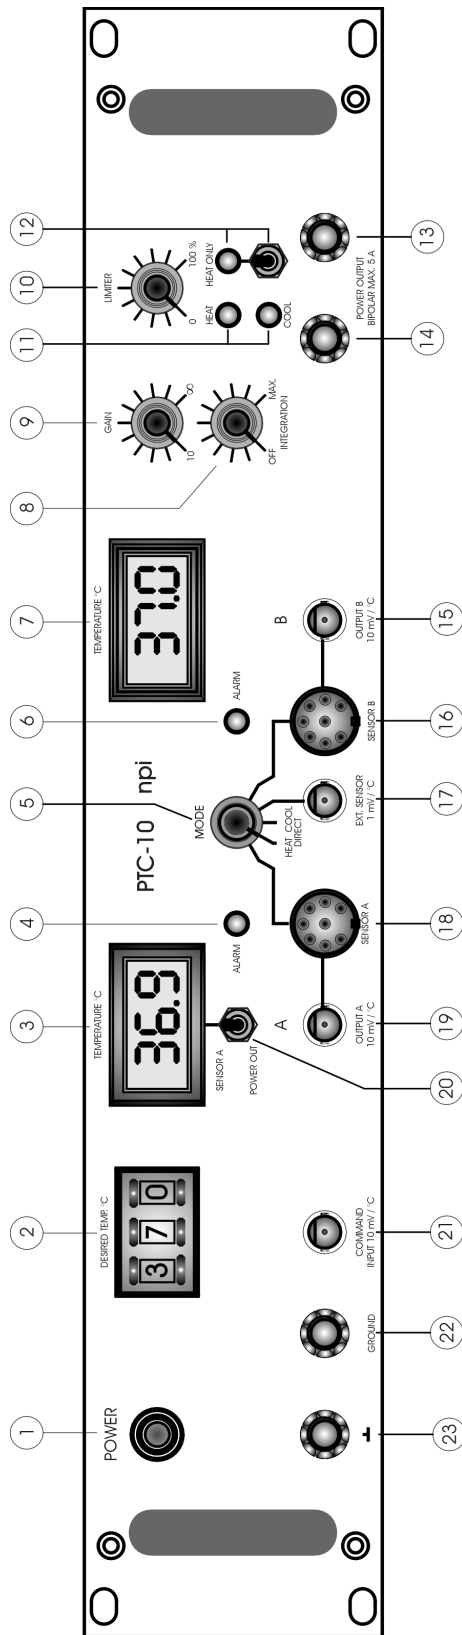

Figure 1: PTC-10 front panel view
In the following description of the front panel elements each element has a number that is related to that in Figure 1. The number is followed by the name (in uppercase letters) written on the front panel and the type of the element (in lowercase letters). Then, a short description of the element is given.
- Connect the “active” side to the + pole (**13**, Figure 1)
- Connect the “opposite” side to the - pole (**14**, Figure 1)
Now it is ensured that the “active” side gets hot if the MODE switch (**5**, Figure 1) is set to HEAT and cold if the MODE switch (**5**, Figure 1) is set to COOL in DIRECT mode. The right polarity is also very important for all other operation modes (see chapter 3.6).
In DIRECT mode (no temperature control) the MODE switch (**5**, Figure 1) is switched to one of the two possible DIRECT positions:
In both DIRECT modes the control unit is not active, i.e. the output voltage is preset directly at the DESIRED TEMP. °C control (**2**, Figure 1). With setting from 000 to 999 the output voltage increases from 0 V to +15 V (DIRECT HEAT) or 0 V to -15 V (DIRECT COOL). The ALARM circuit (see below) is disabled in this mode.
The SENSOR position selects the internal thermometer which use a small semiconductor or PT100 sensor. The measured temperature is displayed at the respective digital display unit (**3** or **7**, Figure 1). The selected sensor input (A or B) is connected to the controller and output stage.
If no sensor is connected or if the sensor is damaged or short circuited the internal shut-off unit disconnects the corresponding power output. This state is indicated by the red ALARM LED (**4** or **6**, Figure 1).
This mode can be used to connect an external thermometer. The calibration of the external input BNC (**17** , Figure 1) is 1 mV / °C. If this option is used the internal ALARM circuit is disabled.